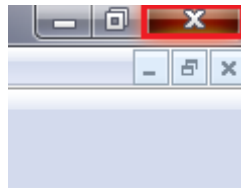

Fig. 1.1.92
- Click the upper right button, see Fig.1.1.92.